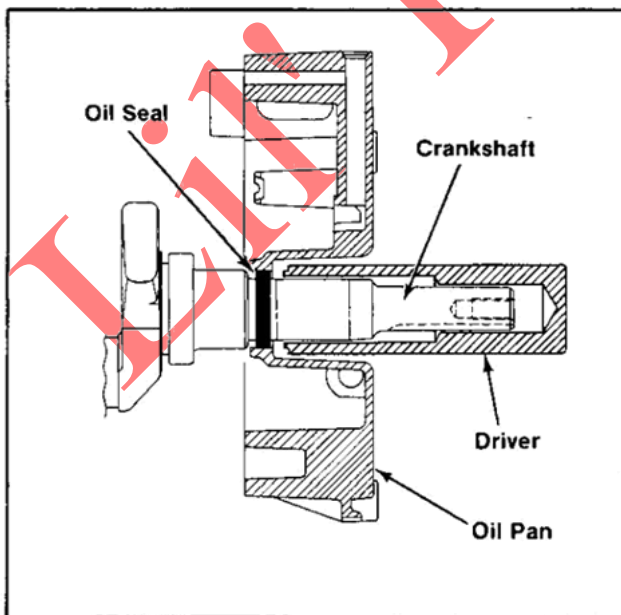

Figure 11-27. Installing Oil Seal Using Driver.
2. Using the appropriate oil seal driver (Tool No. KO-1019), install the oil seal into the oil pan. Refer to Figure 11-27.